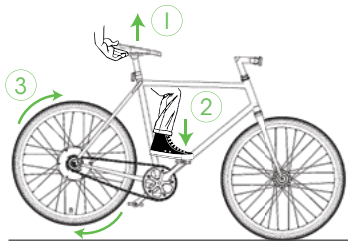

Figure 2: in order to turn on **BIKE all in one**, lift the bike (1), push the pedal (2) such that the rear wheel reaches at least 5 km/h (3).
**BIKE all in one** turns on automatically when the rear wheel reaches a speed higher than 5 km/h. Thus, to turn on **BIKE all in one** just start pedaling your bike as usual or spin the wheel while you lift the bike, as explained in Figure 2 .